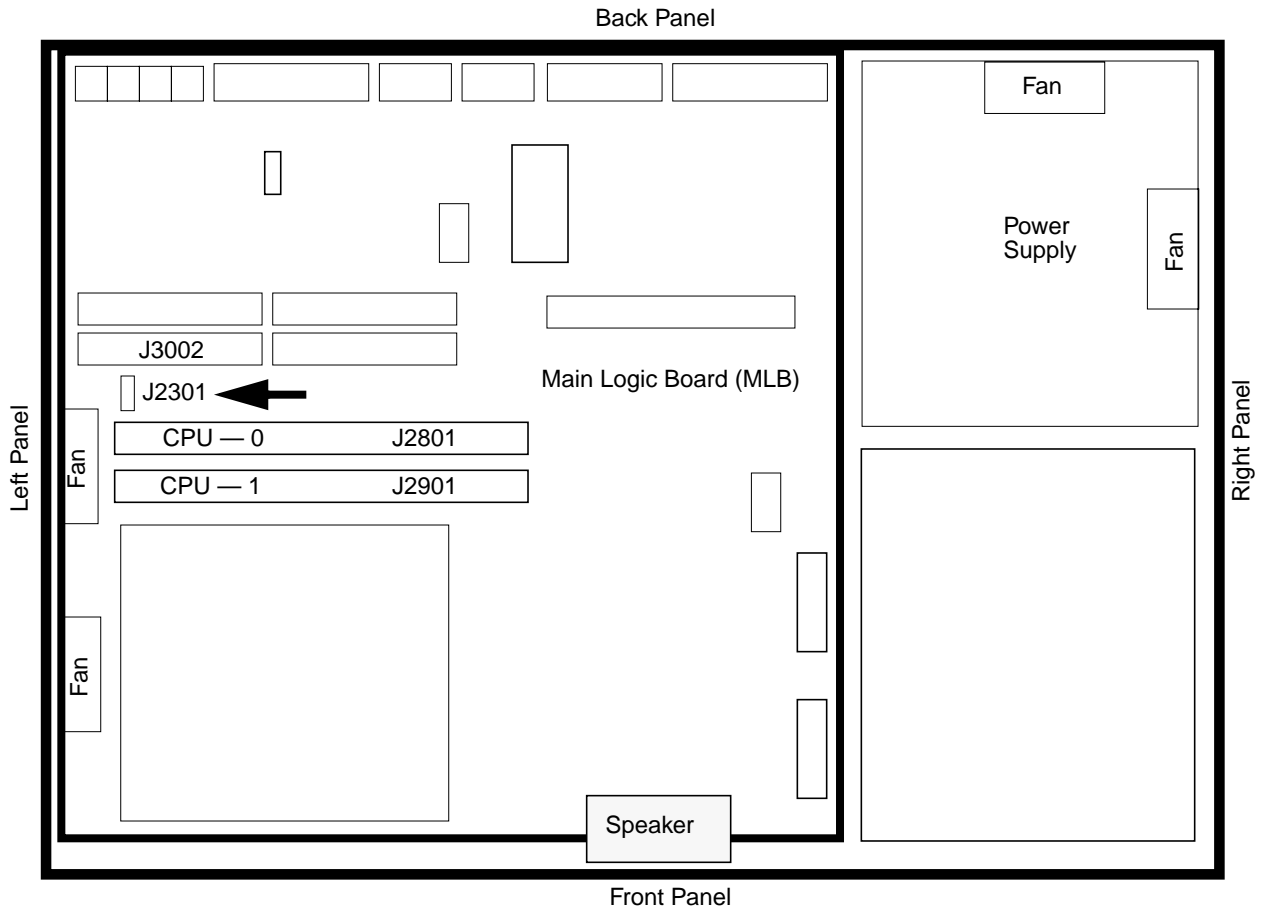

Figure 6-1 Clocking Select Jumper Location on Main Logic Board
- Figure 6-1 shows the location of the clocking select jumper on the main logic board.